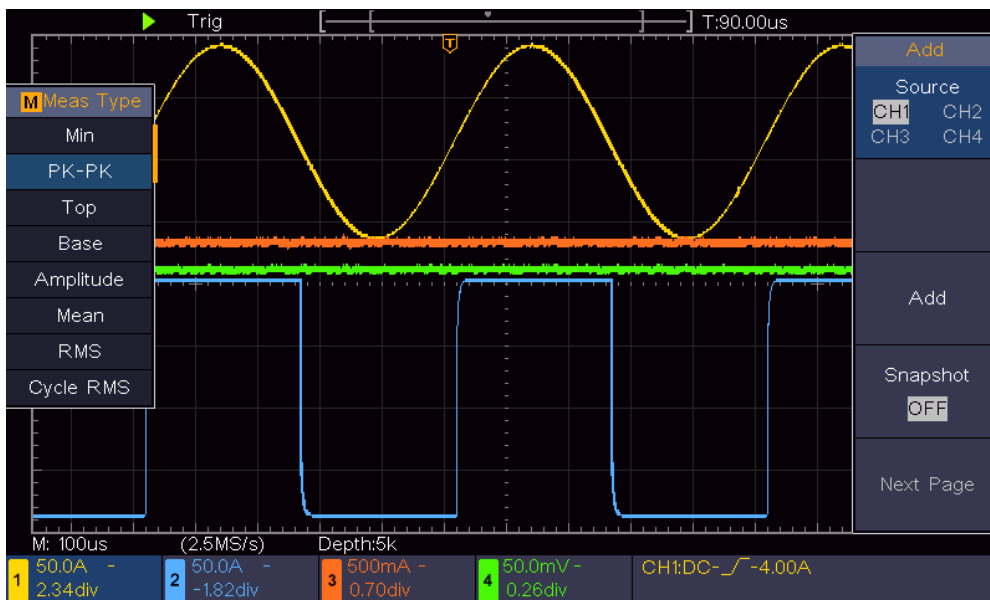

Figure 6-2 Waveform of Gain Measurement
- (1) Push the **Autoset** button and the oscilloscope will automatically adjust the waveforms of the two channels into the proper display state.
- (2) Push the **Measure** button to show the right menu.
- (3) Select **CH1** in the right menu.
- (4) In the left Type menu, turn the **M** knob to select **PK-PK**.
- (5) In the right menu, select **Add**. The peak-to-peak type of CH1 is added.
- (6) Select **CH2** in the right menu.
- (7) In the right menu, select **Add**. The peak-to-peak type of CH2 is added.
- (8) Read the peak-to-peak voltages of Channel 1 and Channel 2 from the bottom left of the screen (see Figure 6-2).
- (9) Calculate the amplifier gain with the following formulas.